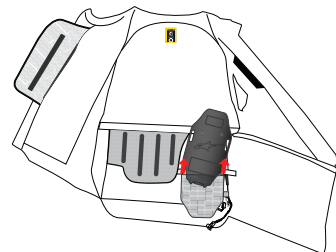

Figure 13
3. Remove the Inflater Housing (4) from its pocket by opening the two fastening hook-and-loop patches (Figure 13).